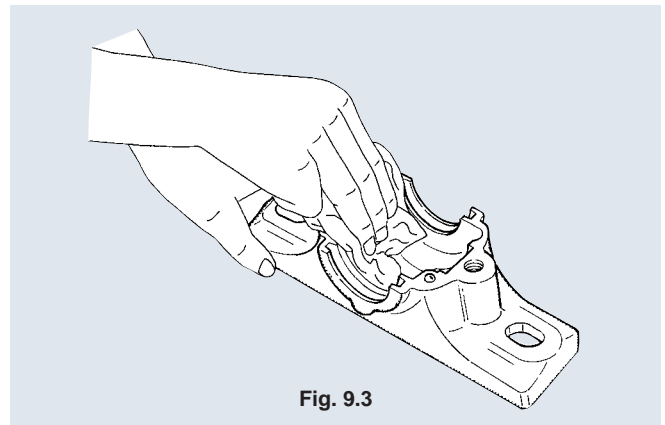

Fig. 9.3
- (3) Remove dent marks (even though very small) from the mating faces with an oil stone or fine emery paper. Check that the contact face to the seal has specified surface roughness (0.8a). Wipe dust away from the shaft with clean factory cloth.
- (4) Remove possible dust and metal chips from the inside of plummer block. **(Fig. 9.3)**